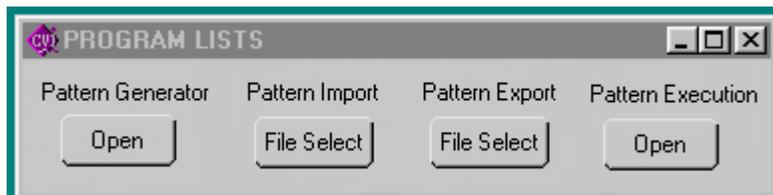

FIGURE 8. PROGRAM LISTS WINDOW
2.2.9 Running or generating a program (pattern) is accomplished by clicking the **Program** button on the Main Panel, opening the Program Lists window (Figure 8). Programs can either be defined point-by-point using the **Pattern Generator Open** button, or by using the **Pattern Import File Select** button to import a file containing the program parameters. Once the program is started, actual values of output current and voltage are displayed. If you exit the program while the power supply is still on, the programmed settings in effect at that time are maintained after exiting the program. Errors are discussed in PAR. 2.2.14.
2.2.9.2 Patterns can be imported in comma-delineated text format using the **Pattern Import File Select** button (Figure 8). The format, showing a single data point, is illustrated in Figure 9 and defined as follows: